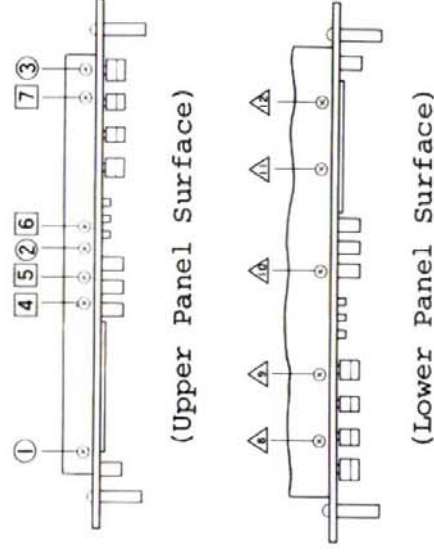

Fig. 2
- Fig. 2 shows the upper panel surface
Fig. 2 shown the lower panel surface